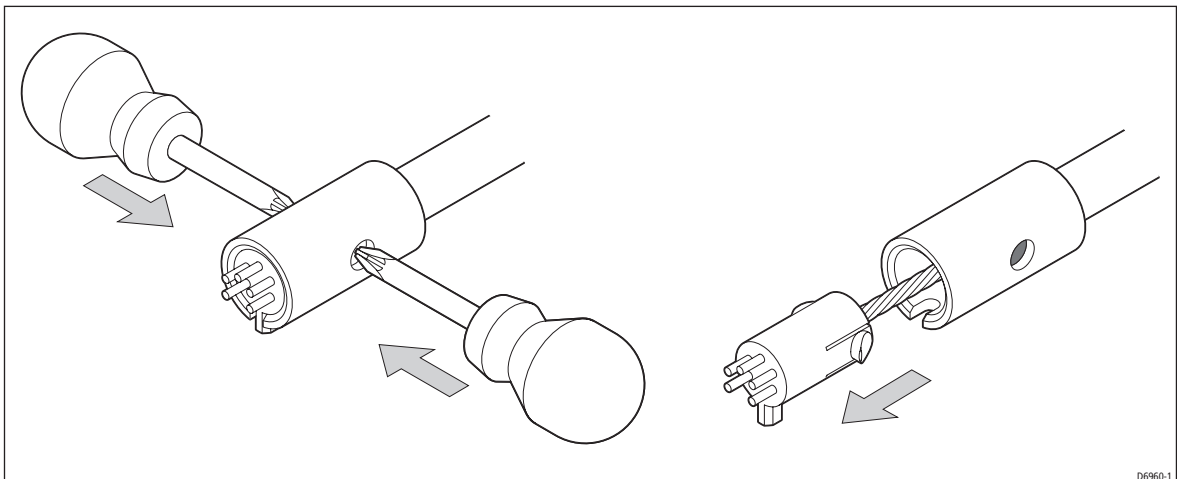

Figure 3: Releasing lower connector
6. Separate the PCB from the bottom pod just sufficiently to gain access to the upper connector (item 7) on the transducer arm cable assembly, then disconnect the connector from the PCB.
7. At the lower end of the transducer arm, press in both clips to release the lower connector (item 14) from the transducer arm (see *Figure 3*).